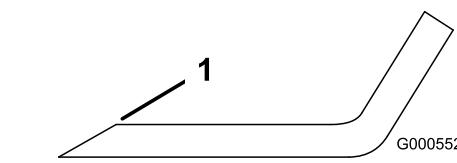

Figure 63
**Note:** If the blade is not balanced, file some metal off the end of the sail area only (Figure 63).